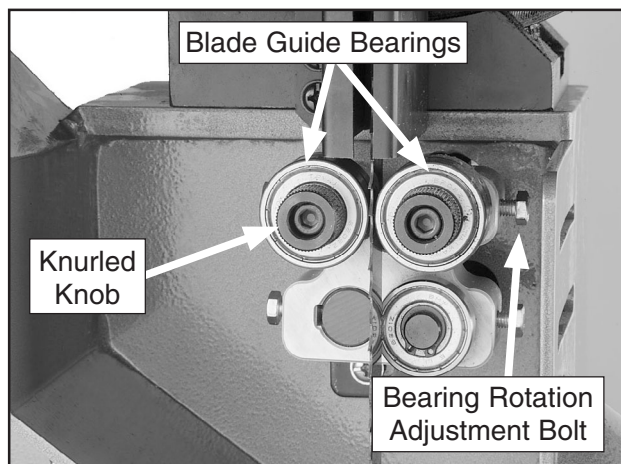

Figure 39. Lower blade guide controls (front view).
3. Familiarize yourself with the blade guide controls shown in **Figure 39**.